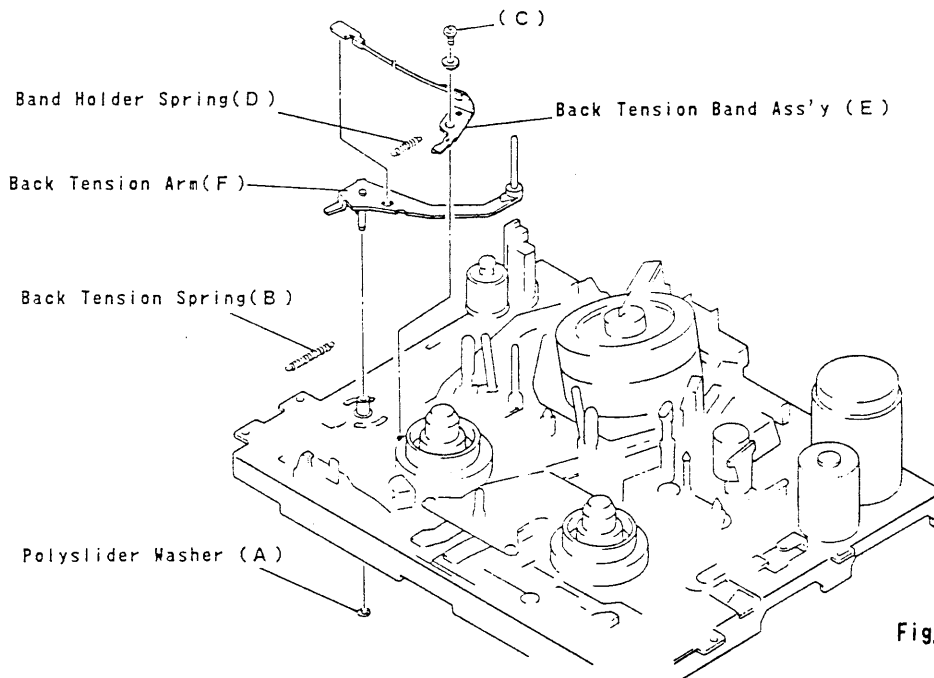

Fig. 2-5
(6) Tension Arm Ass'y (Fig. 2-5)